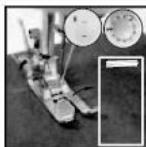

Fig.17
- Turn on the switch and sew 5-6 stitch in low speed, then turn off the switch (Fig. 17).